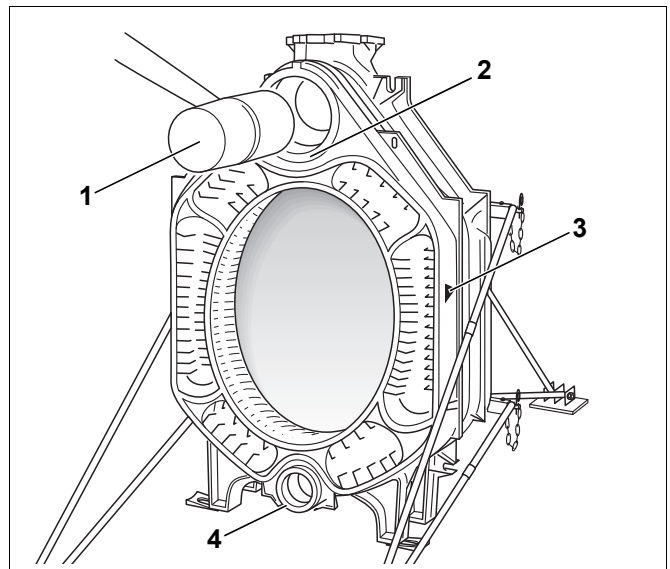

Fig. 18 Knock the central section into place
- Set the centre section with the upper and lower hubs (Fig. 18, [2] and [4]) onto the nipples in the rear sections. Please note: the assembly arrow (Fig. 18, [3]) must point to the rear.
- Drive the centre section onto the rear section using a wooden or a rubber mallet (Fig. 18, [1]).